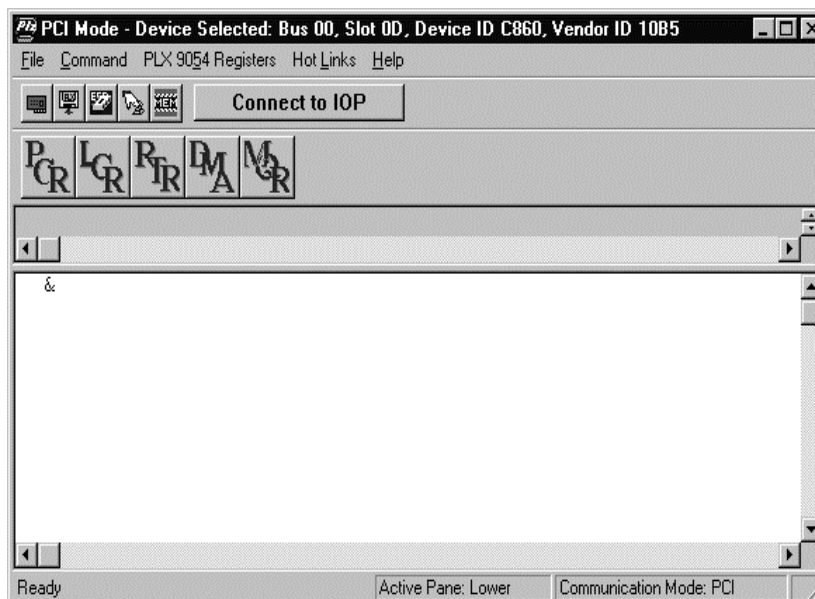

Figure 3-6. The PLXMon Interface
The PLXMon main interface, shown in Figure 3-6 contains:
- A drop-down menu bar, with the five main drop-down menus. Certain options will be available, depending on which PLX RDK is selected. The PLXMon interface for the 9054RDK-860 is shown in Figure 3-6.